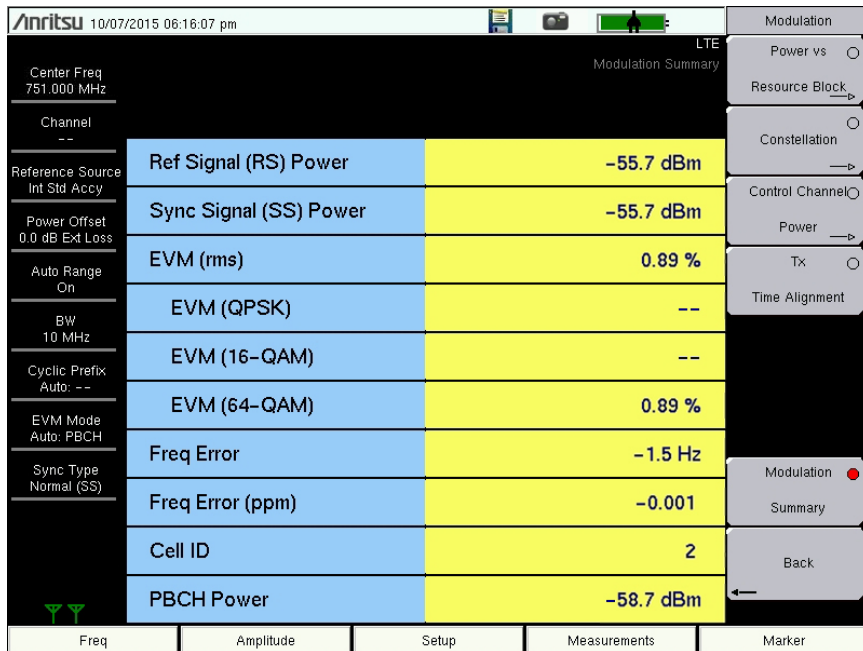

Figure 5-11. Modulation Summary
3. Press the Modulation Summary submenu key to activate and display the modulation measurements in table format (Figure 5-11).